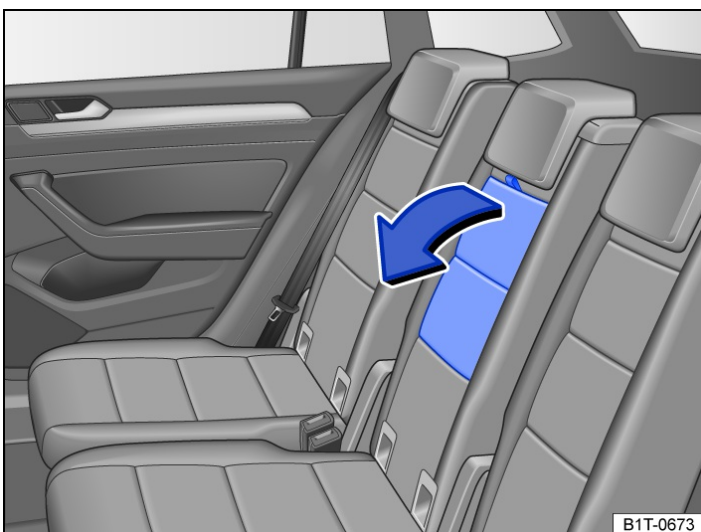

Fig. 2 Rear fold-out centre armrest.
- To *fold it down*: pull the loop in the direction of the arrow → Fig. 2.
- To *fold it back*: fold the centre armrest upwards in the opposite direction of the arrow → Fig. 2 and push it into the backrest as far as it will go.